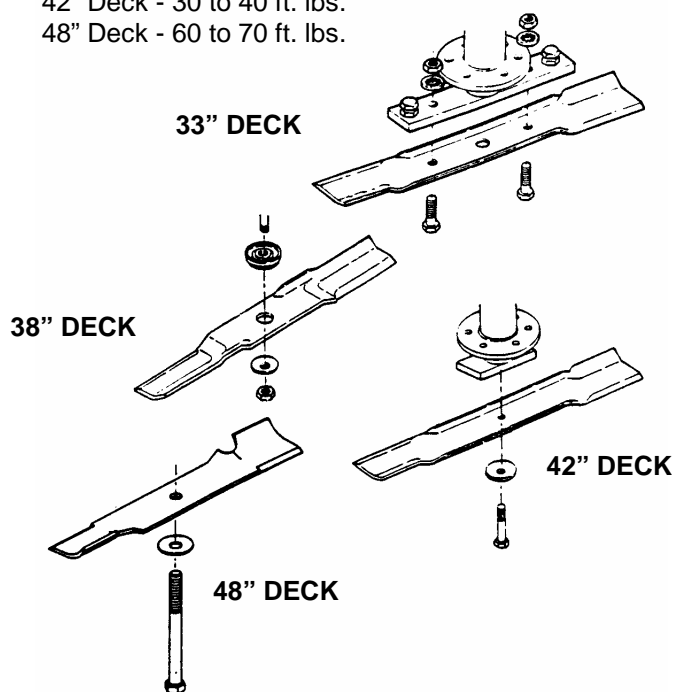

FIGURE 4.14
5. Remove blade(s). See Figure 4.14.
9. Reinstall blade. See Figure 4.14. Torque blade mounting bolts to recommended range of: